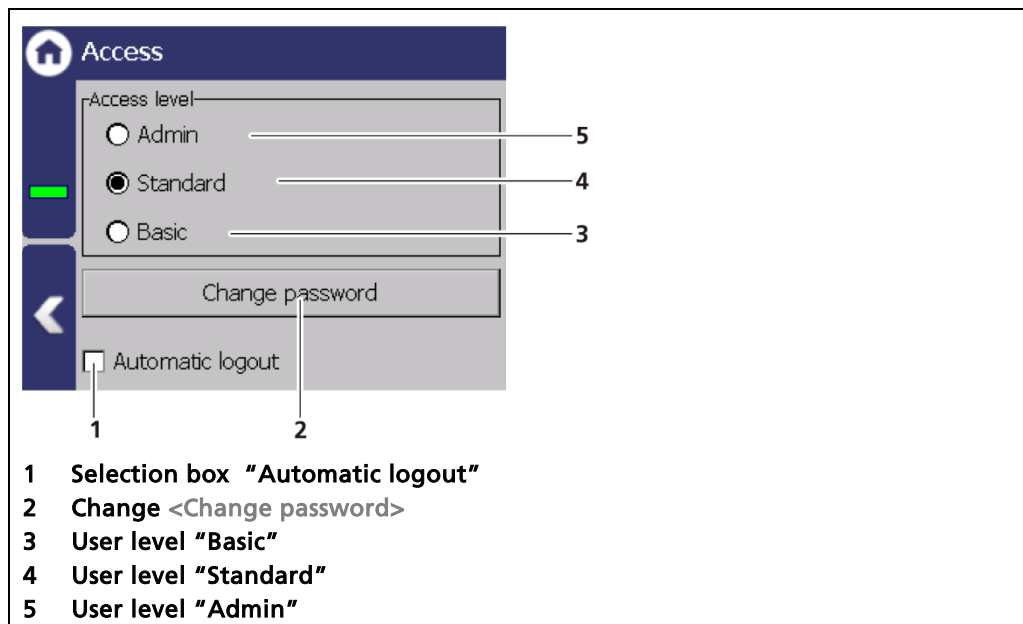
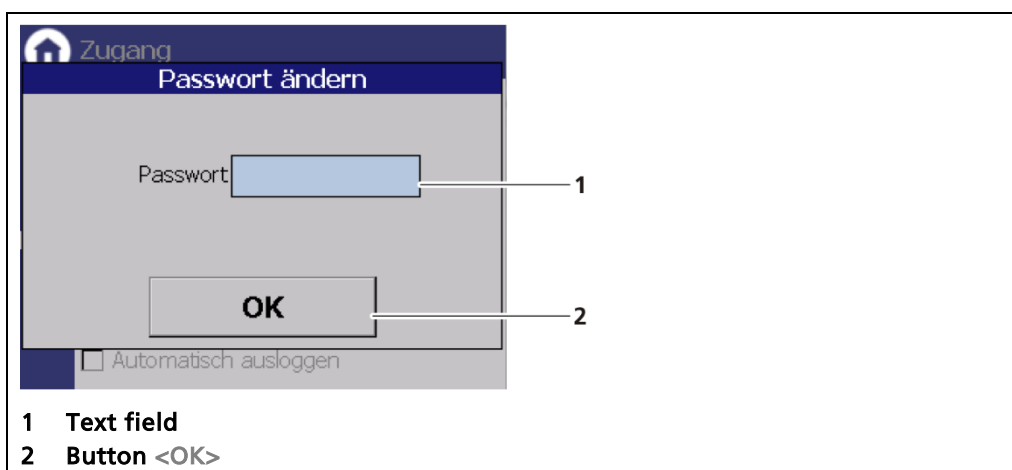

Fig. 38 Menu Access
Fig. 39 Change password
Activating the selection box (Fig. 39 item 1) automatically resets the access level Standard to "Basic" when the system changes to the standard display after the timeout (Chap. 7.3.1).
To set or change a password, select "Standard" (Fig. 38, item 4) and click on <Change password> (Fig. 39, item 2) to open the input field.
1. Click on the text field (Fig. 39, item 1.) to open the input field.
4. Click <OK> (Fig. 39, item 2) to confirm.